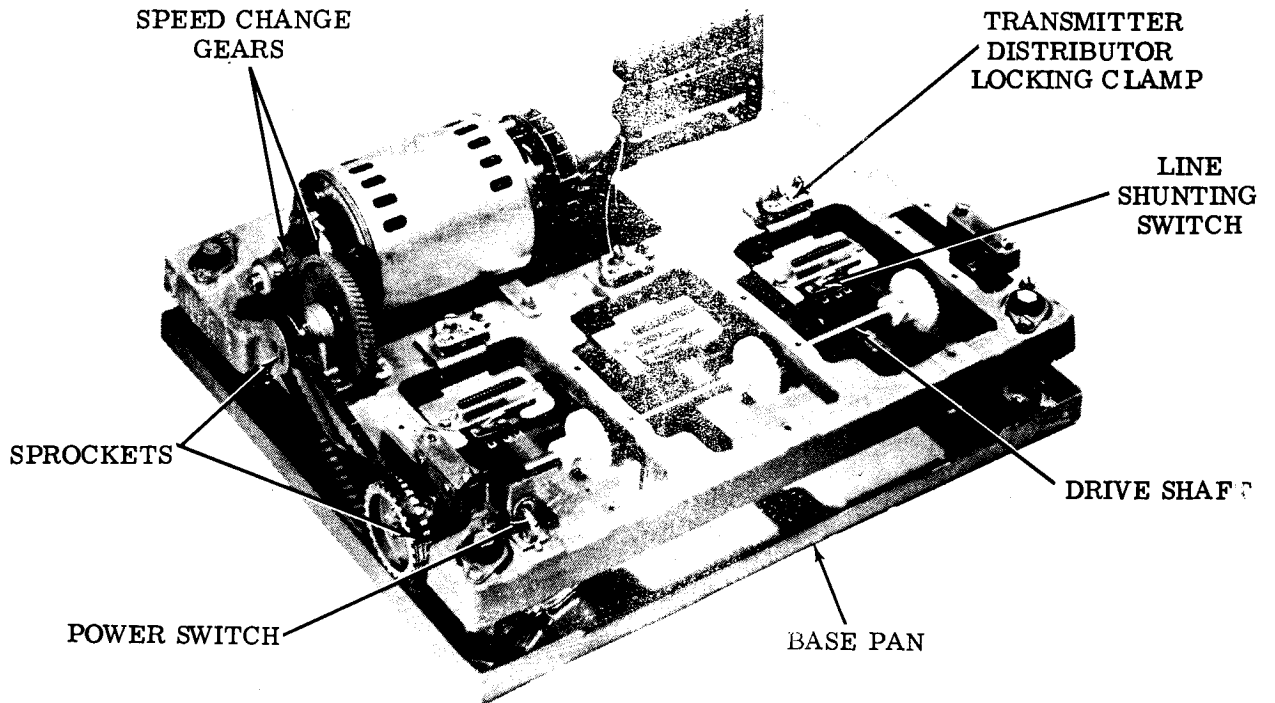
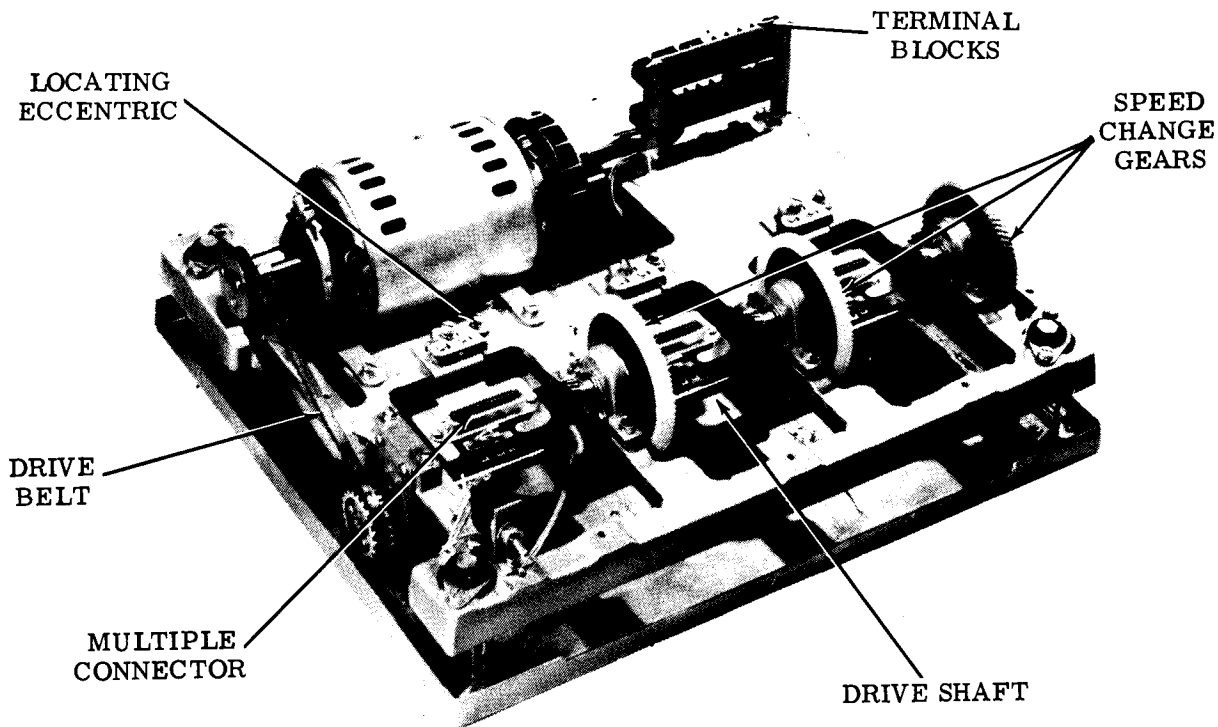
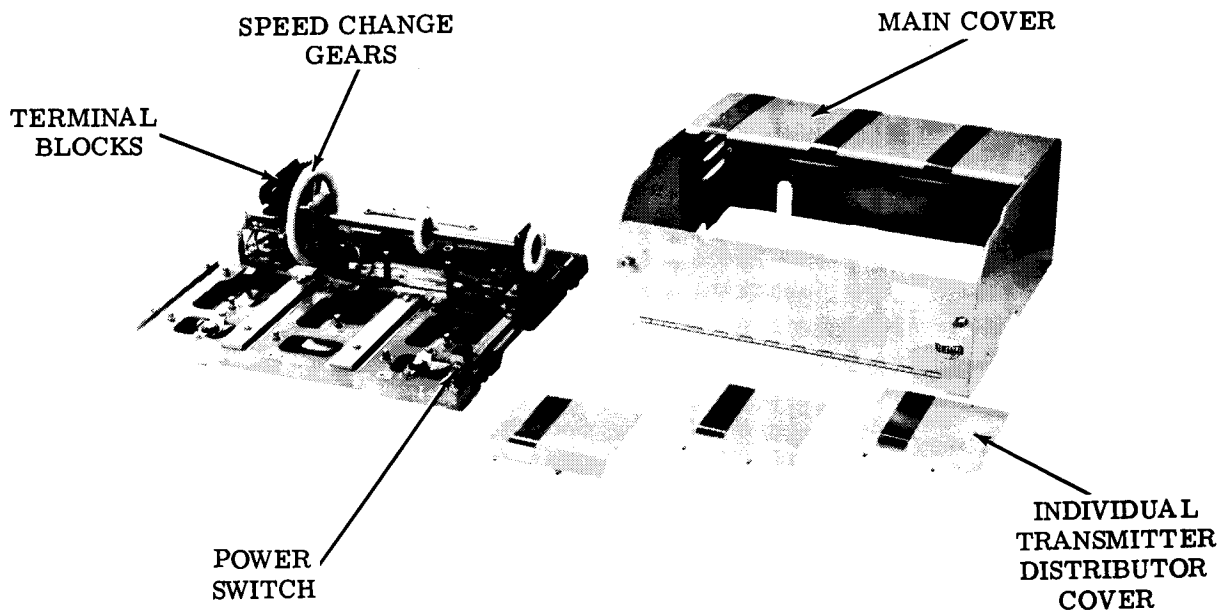

Figure 6 - Single Contact Multiple Moundog Transmitter Distributor Base (Common Speed)
Figure 7 - Single Contact Multiple Mounting Transmitter Distributor Base
Figure 8 - Multicontact Multiple Mounting Transmitter Distributor Base (Common Speed)
2.16 The multiple mounting base is designed as a mounting for three transmitter distributors, a motor unit, drive shafting, and gears. There are two types of these bases, each with provisions for changing the driving speed of its associated transmitter distributors. One type is designed as a mounting for three single contact transmitter distributors (Figures 6 and 7). The other type is designed as a mounting for three multicontact transmitter distributors (Figures 8 and 9).
change gears between the motor pinion and an intermediate gear assembly (Figure 6). With this arrangement, the three gears on the drive shaft are the same size and drive all three transmitter distributors at the same speed. Other bases have speed change gears at each transmitter distributor (Figure 7). With this arrangement, each transmitter distributor may be driven at 60, 75, or 100 words per minute by changing its intermediate gears.
2.20 The multiple mounting bases for the multicontact transmitter distributors also serve as a mounting for three transmitter distributors, a motor unit, drive shafting with gears, and electrical connections. Some of these bases are constructed of aluminum casting (Figure 8); others are constructed of steel plates (Figure 9). A drive shaft traverses the base near its center portion and drives the transmitter distributors, either directly or through a gear shift assembly. Where the shaft drives the transmitter distributor directly, the speed changes are made between the motor pinion and
the intermediate gear (Figure 8). Where the gear shifts are used, the speed of any one of the transmitter distributors may be changed irrespective of others by shifting the gears (Figure 9).
and terminal blocks; and the other three are cover plates for the individual transmitter distributors (Figure 8). The front side of the larger cover is hinged so that it may be opened for access to the front of the transmitter distributors.